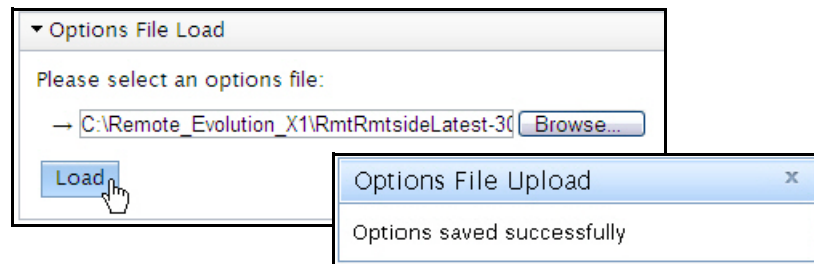

Figure 29. Loading an Evolution X1 Remote-side Options File
9. In the Options File Load section of the File Management page, click Load to send the options file to the Satellite Router. You should see a message indicating that the operation was successful (Figure 29).